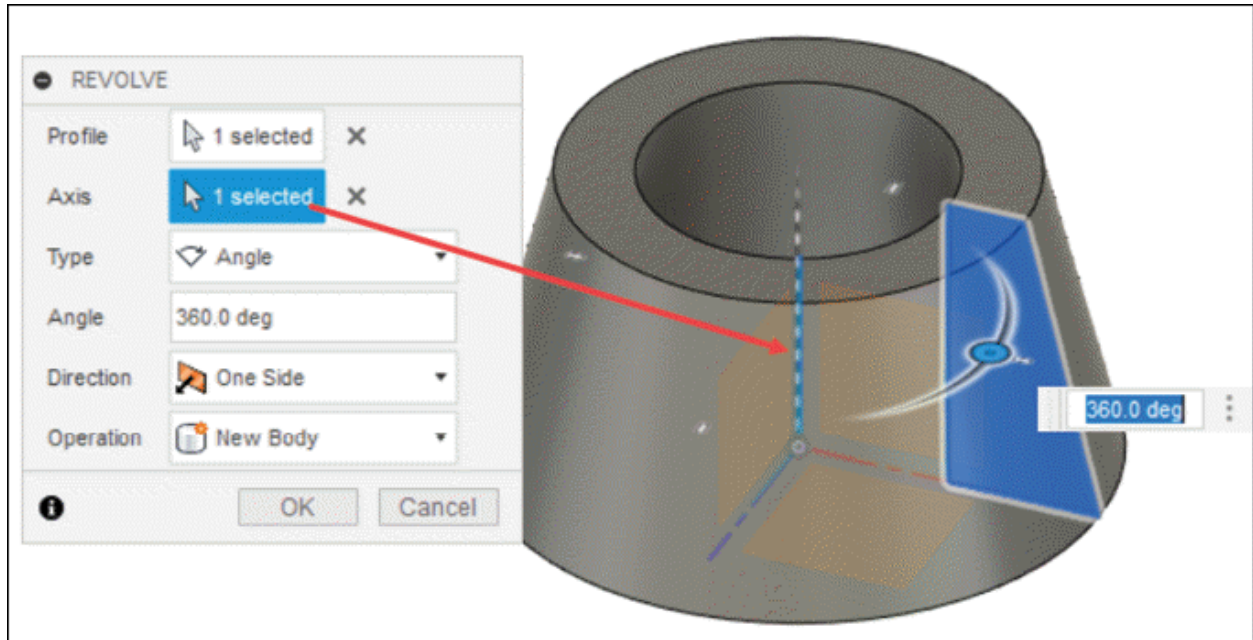

Figure-104. Creating revolve feature
- Click on the **Revolve** tool from **CREATE** panel in the **Ribbon** and specify the parameters as shown in Figure-104. Click on the **OK** button from the **REVOLVE** dialog box to create the feature.